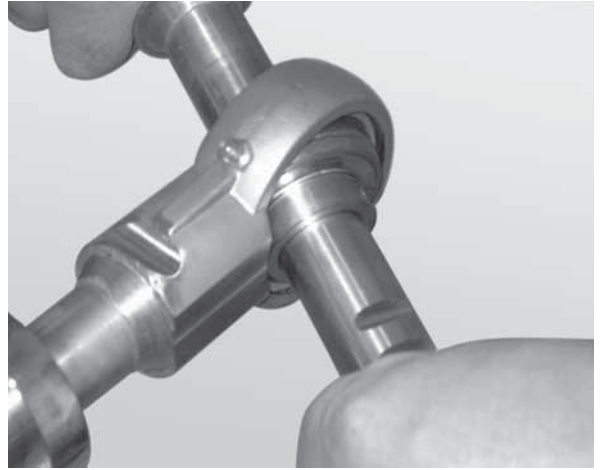

Figure 91
2. Insert the rod end of a second bearing shaft through the bearing (**Figure 91**).